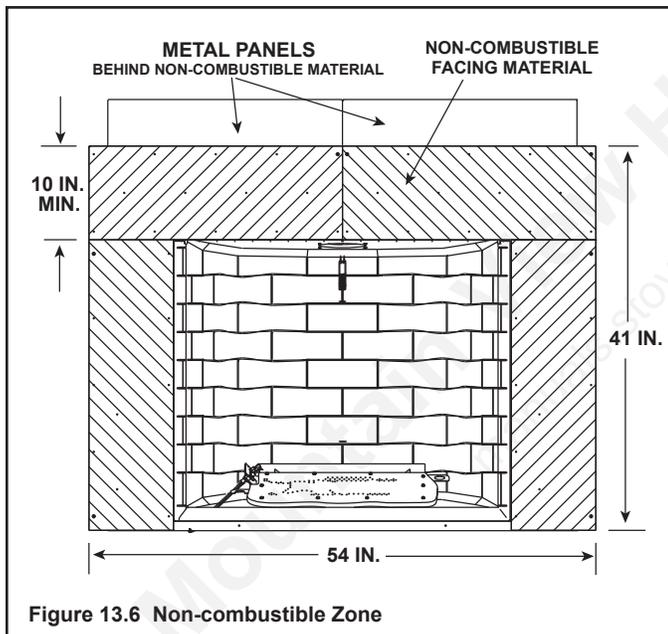

Figure 13.6 Non-combustible Zone
- Non-combustible materials **MUST** be placed around the fireplace opening (see Figure 13.6)
The entire face of the appliance is covered with non-combustible finishing material, such as brick, stone or tile (see Figures 13.6 and 13.7).